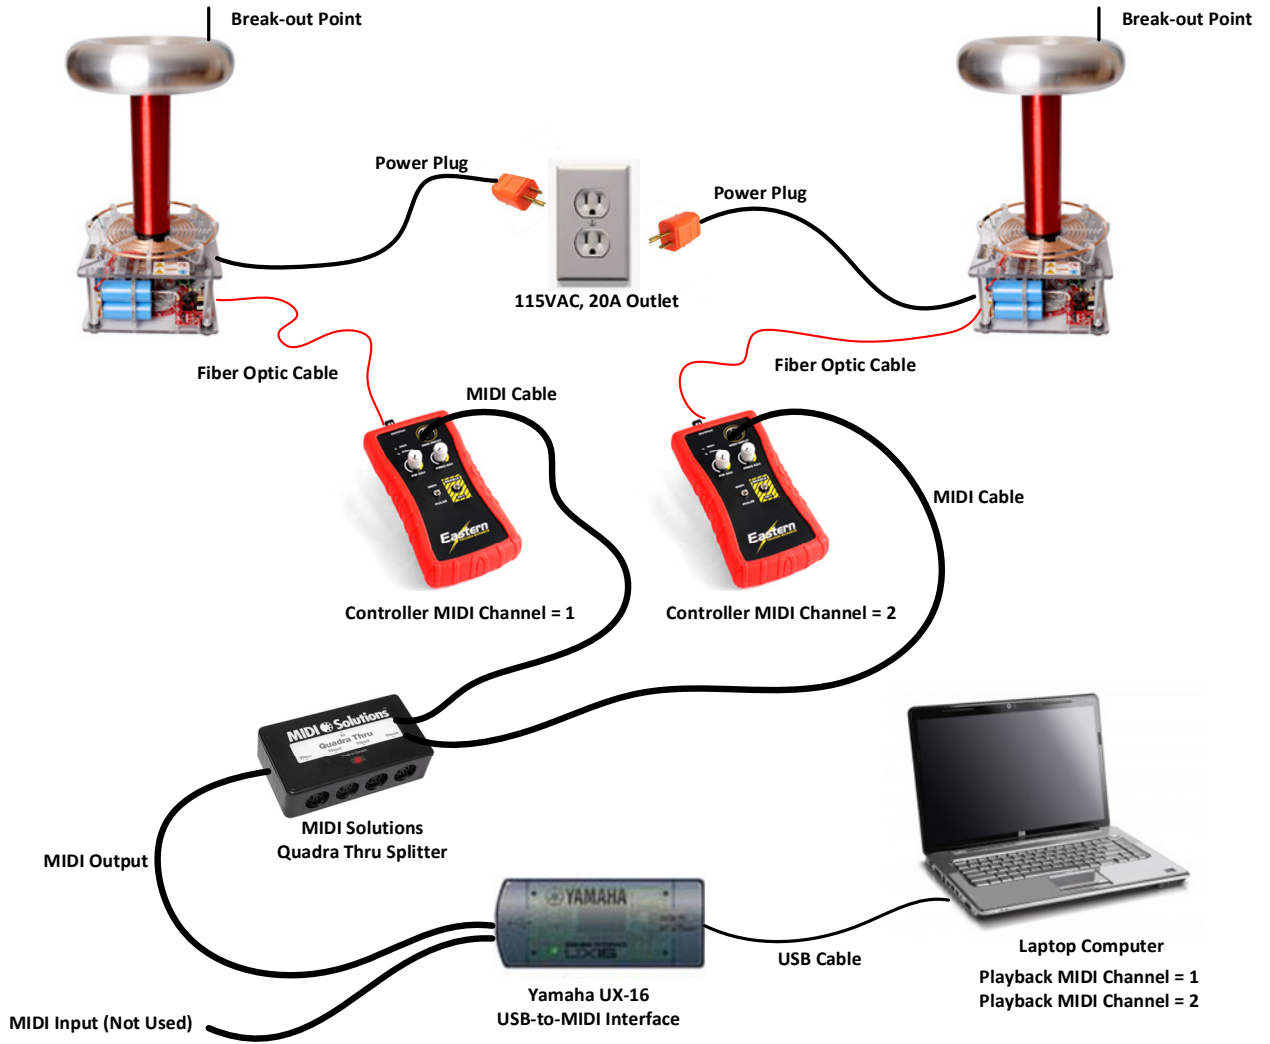

Figure 5 – Plasmasonic DRSSTC Hook-up
- Two (2) Plasmasonic Systems (MIDI Mode operating with Laptop) – Figure 5